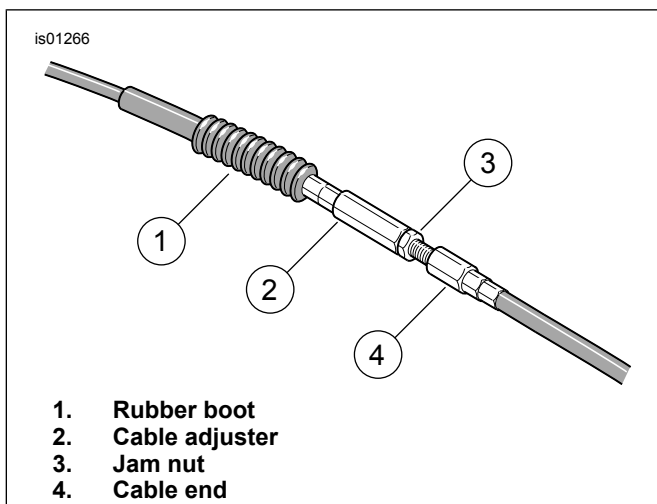

Figure 4. Loosen Clutch Adjuster
2. See Figure 4. Loosen clutch adjuster so clutch cable is fully slack by performing the following:
- a. Slide rubber boot (1) off cable adjuster.
- b. Holding cable adjuster (2) with 1/2 inch wrench, loosen jam nut (3) using a 9/16 inch wrench.
- c. Back jam nut (3) away and turn cable adjuster (2) toward jam nut to introduce a large amount of free play at the clutch hand lever.
- a. See Figure 4. Turn cable adjuster (2) away from jam nut (3) until slack is eliminated at hand lever